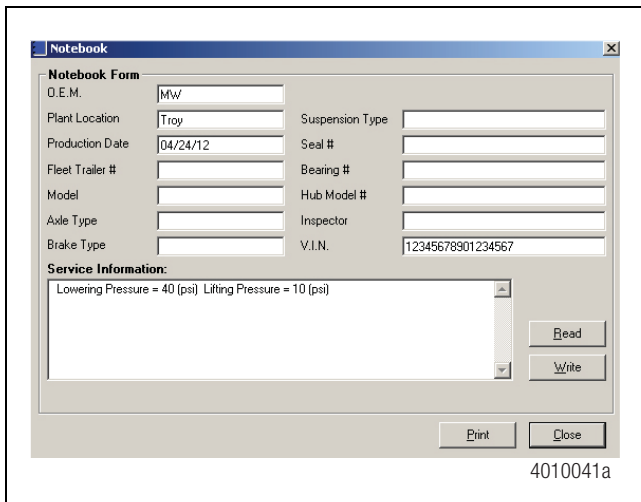

Figure 12
4. After the pressure values have been validated and programmed, they will be displayed in TOOLBOX™ Software's "Notebook" feature. Figure 12.